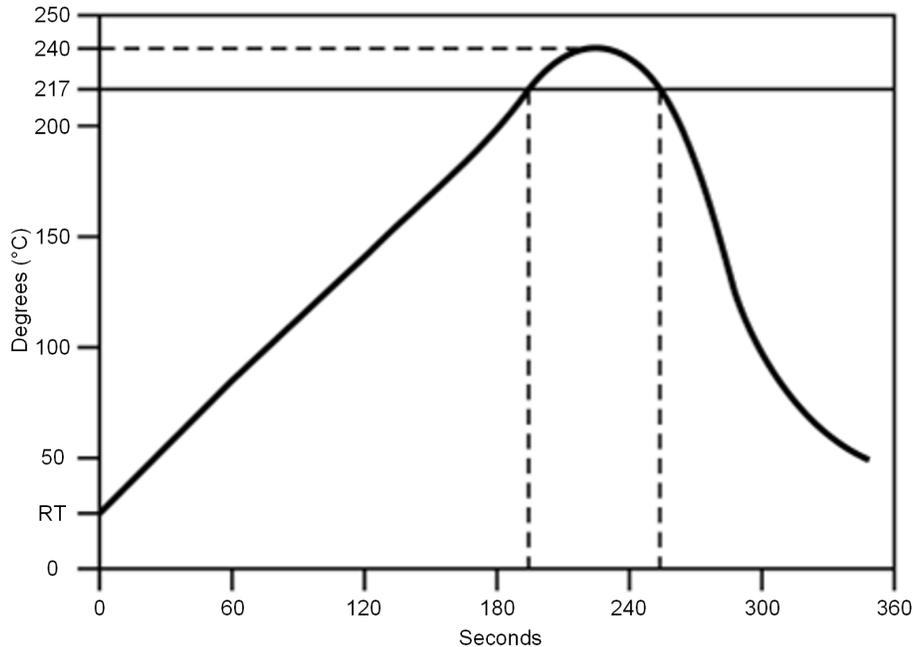

Figure 11-1. Temperature Profile for Evaluation of Solder Heat Resistance of a Component (at Solder Joint)
- Temperature measurement: Thermocouple $d = 0.1 \text{ mm}$ to 0.2 mm CA (K) or CC (T) at soldering portion or equivalent method
- Allowable reflow soldering times: 2 times based on the reflow soldering profile (see Figure 11-1)
- Temperature profile: Reflow soldering will be done according to the temperature profile (see Figure 11-1)